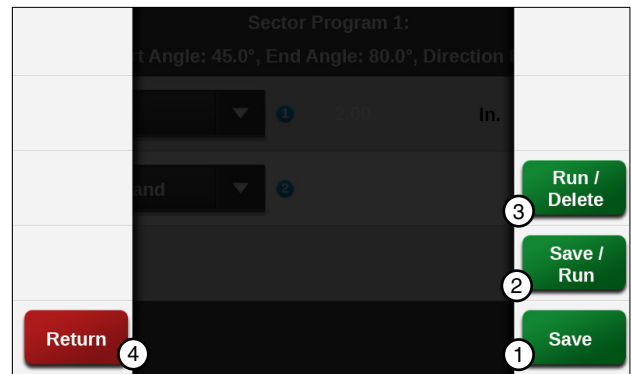

Figure 151-2 1. Save 3. Run/Delete
12. Finish the program by selecting one of the following. Refer to Figure 151-2.